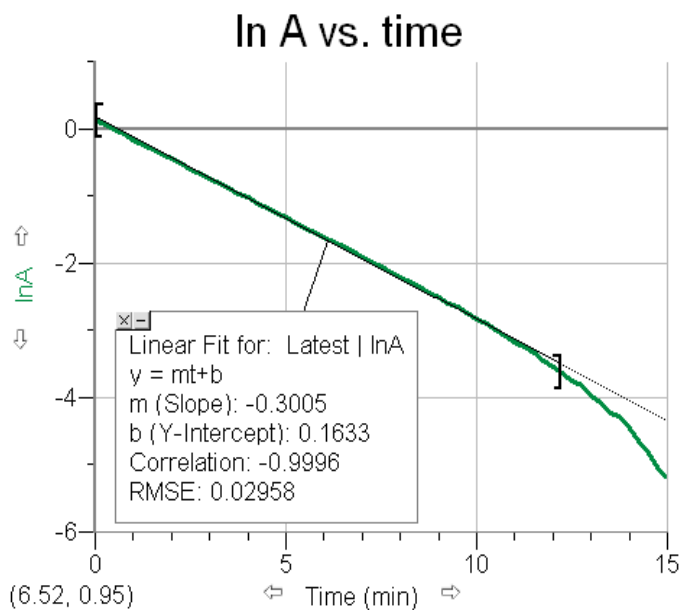

Figure 10. Kinetics plot with a shortened time range. The A_{∞} offset used was too large producing curvature at the very end of the plot.
- f. The very long-time behavior of your plot may be noisy and may have some curvature, Figure 10. This curvature may be caused by not knowing the exact A_{∞} offset from step 1, above. You can narrow the range for the linear curve fit by dragging the] at the right-hand side of the plot. However, keep the fitting interval as wide as possible. (If the] handle isn't showing, remove the current curve and fit again.) Use the same time interval when comparing the curve fit for the $1/A$ vs. time plot, to make a fair comparison. Alternatively, you can adjust the A_{∞} in the calculation for the A column to get a longer linear range. You can edit the formula for a column by double clicking the column label in the data table. Adjusting the offset also makes a fair comparison, since the same offset is used in both curve fits. However, make sure that this A_{∞} makes sense (i.e. estimate A_{∞} by eye and check your result). Choosing an incorrect A_{∞} value can distort the data plots so that you end up choosing the incorrect order.